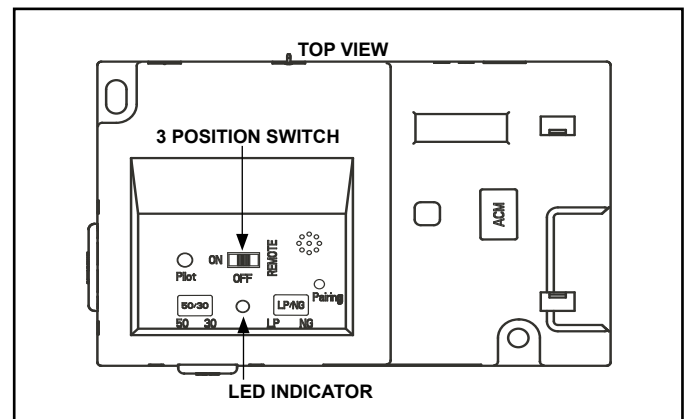

Figure 3.8 IFT-ECM
1. The Electronic Control Module (IFT-ECM) has a three-position ON/OFF/REMOTE selector switch that must be set for proper operation. See Figure 3.8. When changing switch positions, it is important to pause in each position for 1-2 seconds.